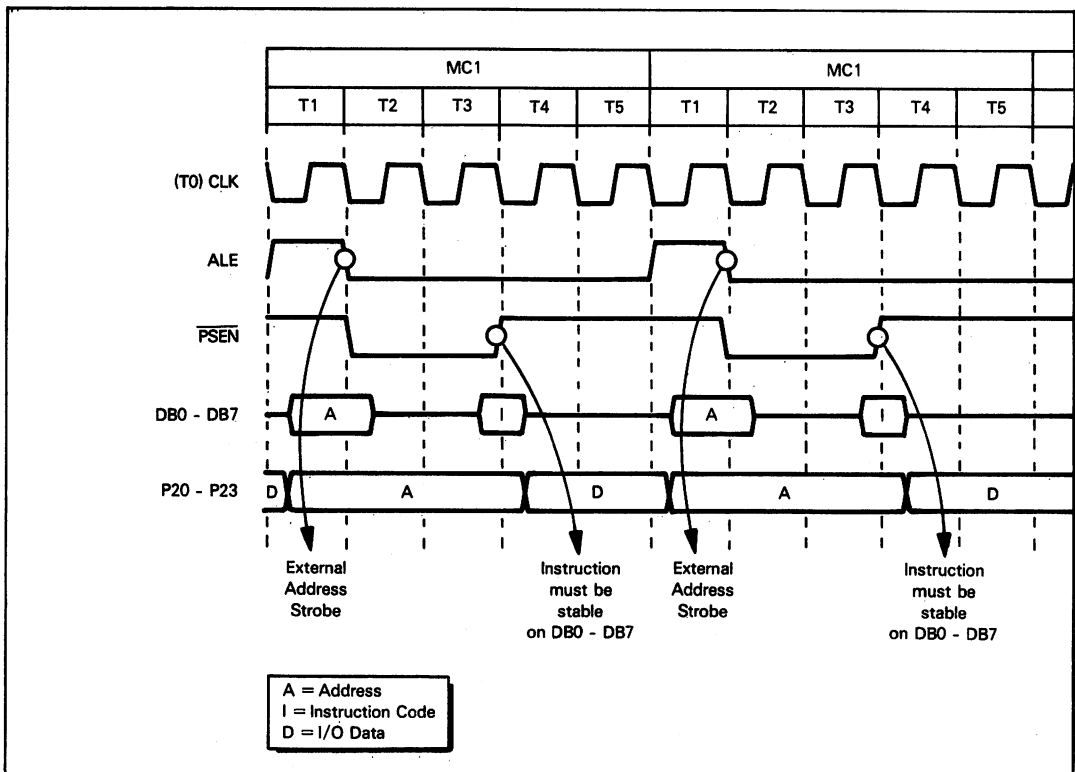
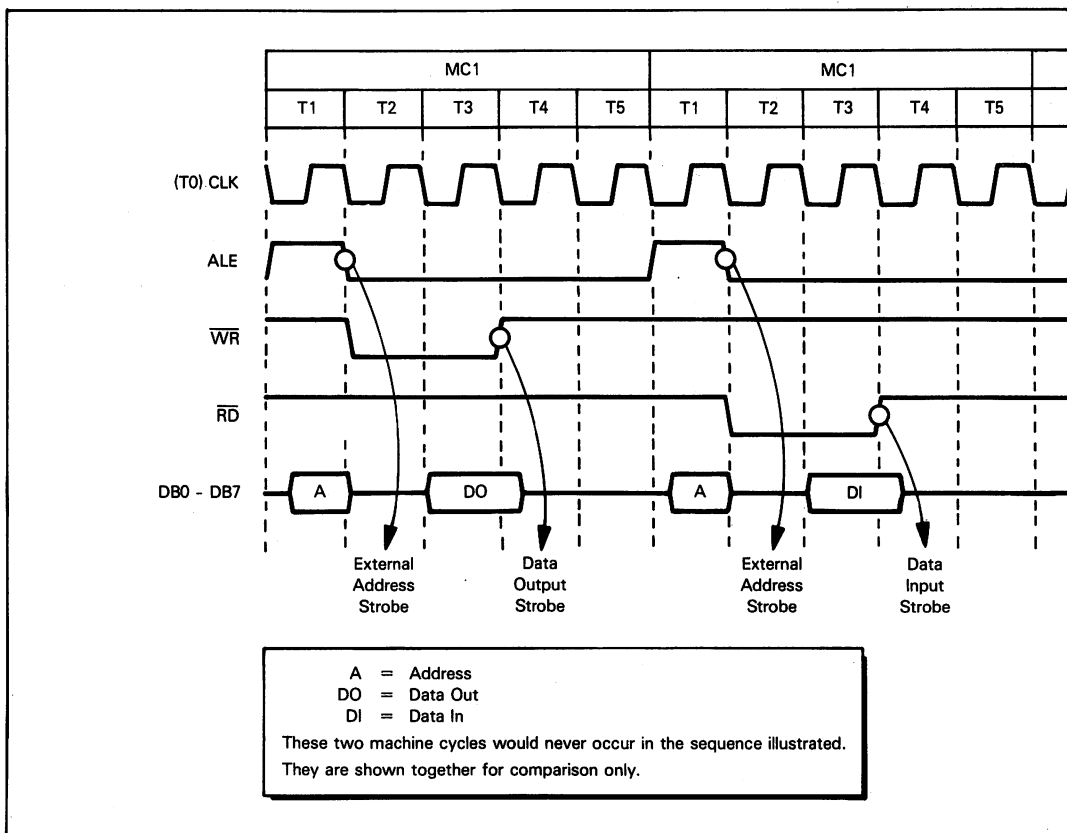

Figure 6-7. An 8048 Series External Instruction Fetch
Figure 6-8. An 8048 Series External Data Read or Write
**Figure 6-7 illustrates timing for an external program memory read.** The external program memory address is output via DB0 - DB7 (low-order eight address lines) and P20 - P23 (high-order four address lines). The address is maintained stable just long enough for external logic to latch it on the high-to-low transition of ALE.
**Timing associated with reading data from external data memory and writing to external data memory is illustrated in Figure 6-8.** Timing is very similar to the external instruction fetch illustrated in Figure 6-7. Instead of  $\overline{PSEN}$  being pulsed low,  $\overline{RD}$  is pulsed low to strobe data input;  $\overline{WR}$  is pulsed low to strobe data output. Since the total external data memory address space is 256 bytes, the complete address is transmitted via DB0 - DB7; thus P20 - P23 is inactive during an access of external data memory.
**You can bypass program memory internal to the 8048 series microcomputer by inputting a high signal at EA. While EA is high, timing for all program memory accesses will conform to external program memory accesses as illustrated in Figure 6-7. You may change the level of EA only when RESET is low; that is, you cannot switch between internal and external memory during program execution.**